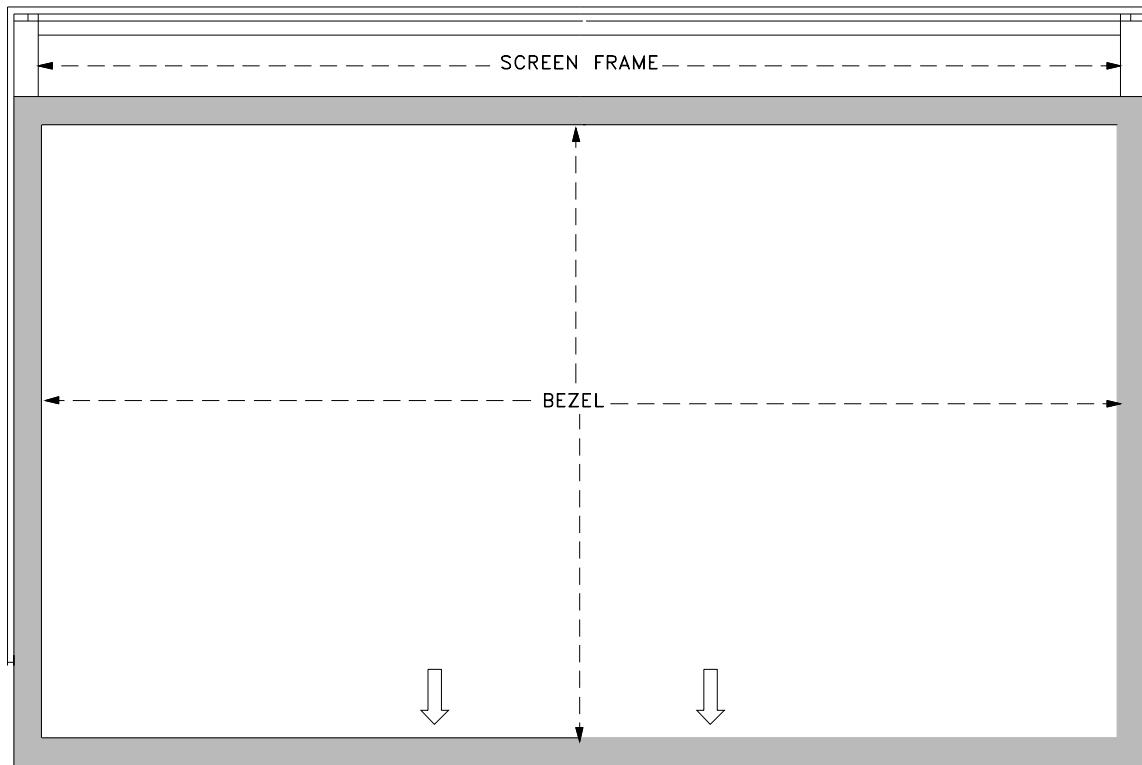

Figure 2: BEZEL Removal (Front View)
**Assy PWB- TERMINAL Removal (Figure 2)**
3. From the front of the screen assembly, slide the BEZEL out the bottom of the Screen Frame. (*Figure 2*)